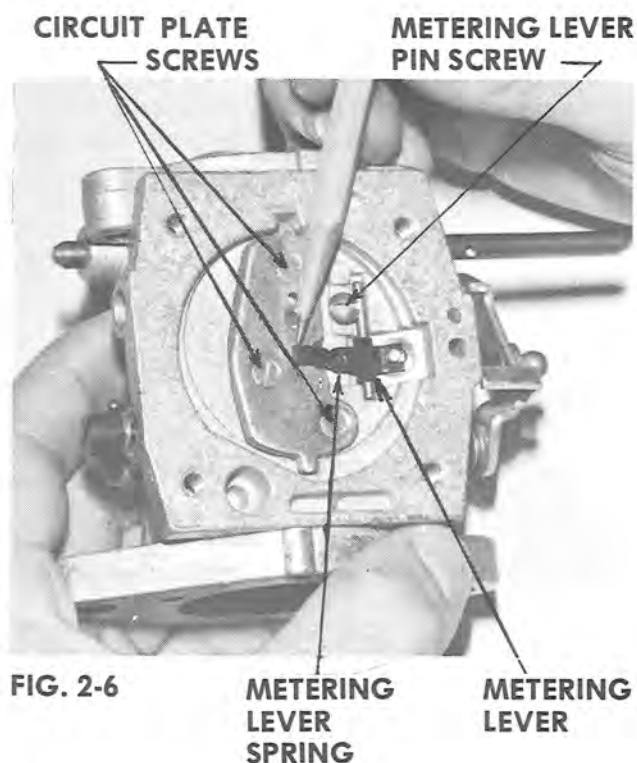

FIG. 2-6
2. Remove metering lever pin screw. (FIG. 2-6)
3. Remove metering lever. Watch that spring does not fly out. (FIG. 2-6)
2. Remove three circuit plate screws. (FIG. 2-6)
3. Metering lever spring not seated in dimple on metering lever.	3. Remove plates and inspect spring. Locate spring correctly (See FIG. 2-6)